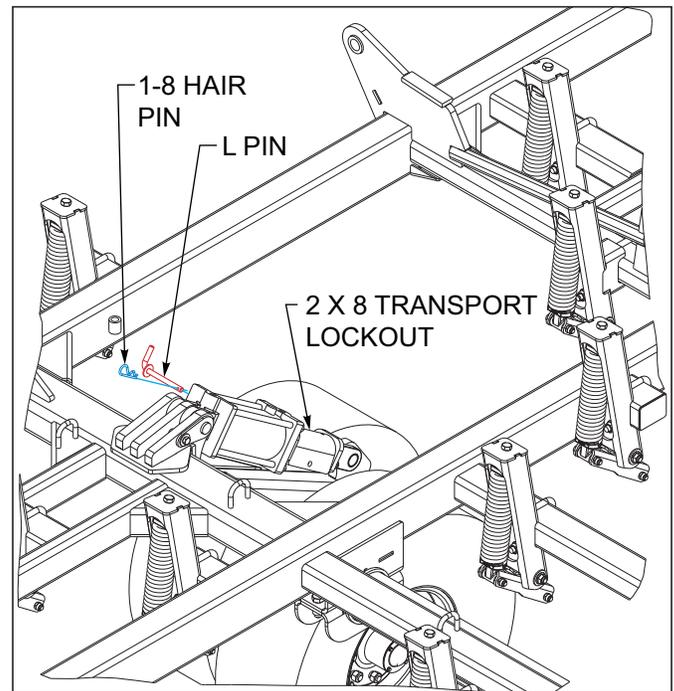
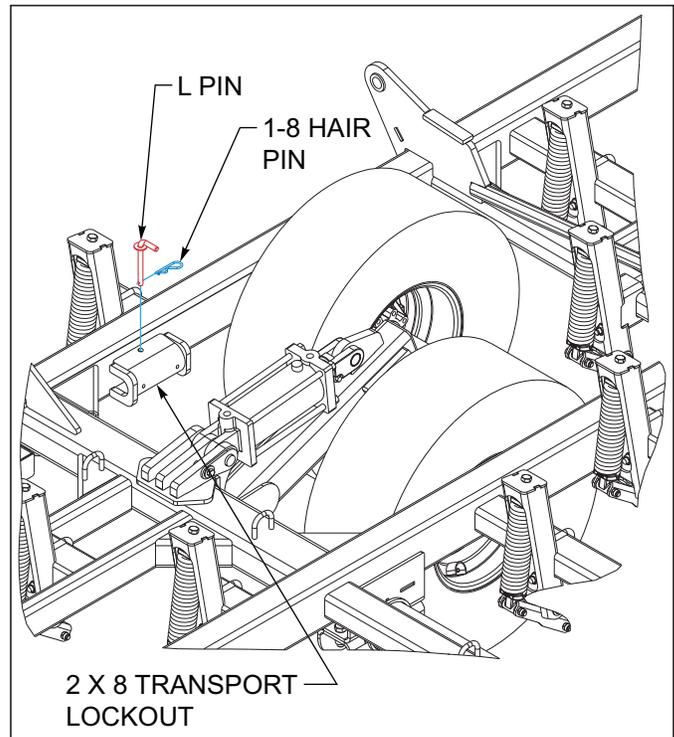

Figure 4-3: Installed Transport Locks
Figure 4-4: Stored Transport Locks
2. The hydraulic system is not filled with oil and should be purged of air before transporting and field operations. Carefully hitch the Tilloll to the tractor and connect the hydraulic lift hoses. Check to make sure the tractor hydraulic reservoir is full of the manufacturer's recommended oil. Slowly raise the machine, and continue to hold the hydraulic lever until all lift cylinders are fully extended. Lower and raise the unit to verify that all cylinders are working simultaneously throughout the stroke. If the cylinders are not working evenly or together, fully extend the lift cylinders and continue to hold the lever to purge any remaining air. Do not loosen any hoses or fittings. Recheck tractor reservoir to make sure it is within operating limits. With all cylinders fully extended, install the 2 X 8 transport lockouts See Figure 4-3. Storage location for lockouts See Figure 4-4.